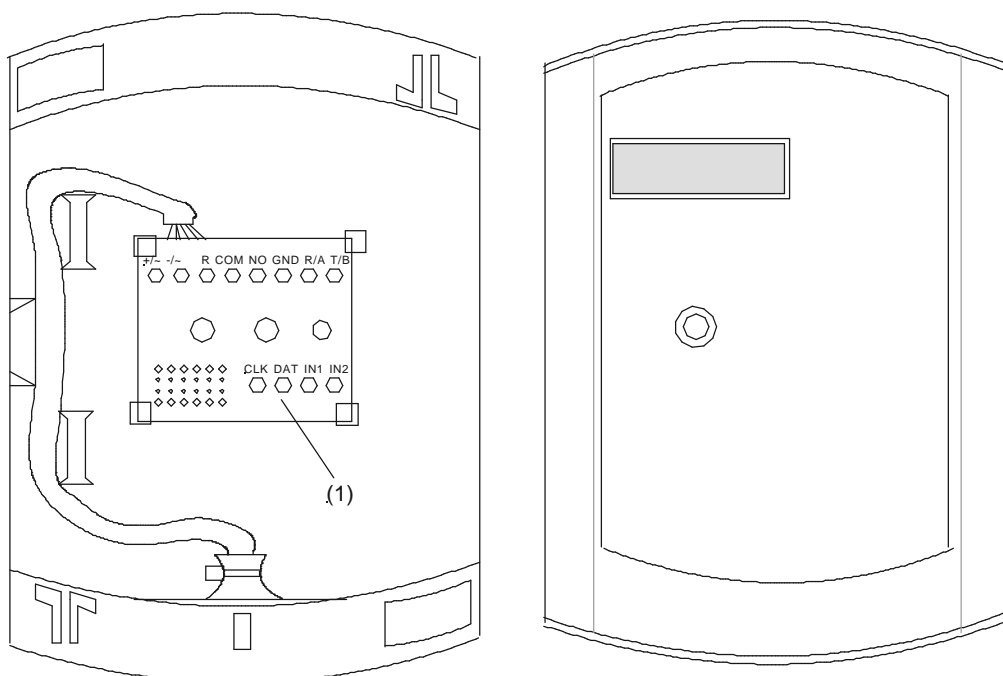

Fig 3: Surface installation (LED top left)
- Put the connection board (1) out of the bottom part of the concealed casing and snap it into the bottom part of casing according to Fig 3 with the connectors in downward direction. In order to do this, press the notches slightly apart with your fingers.